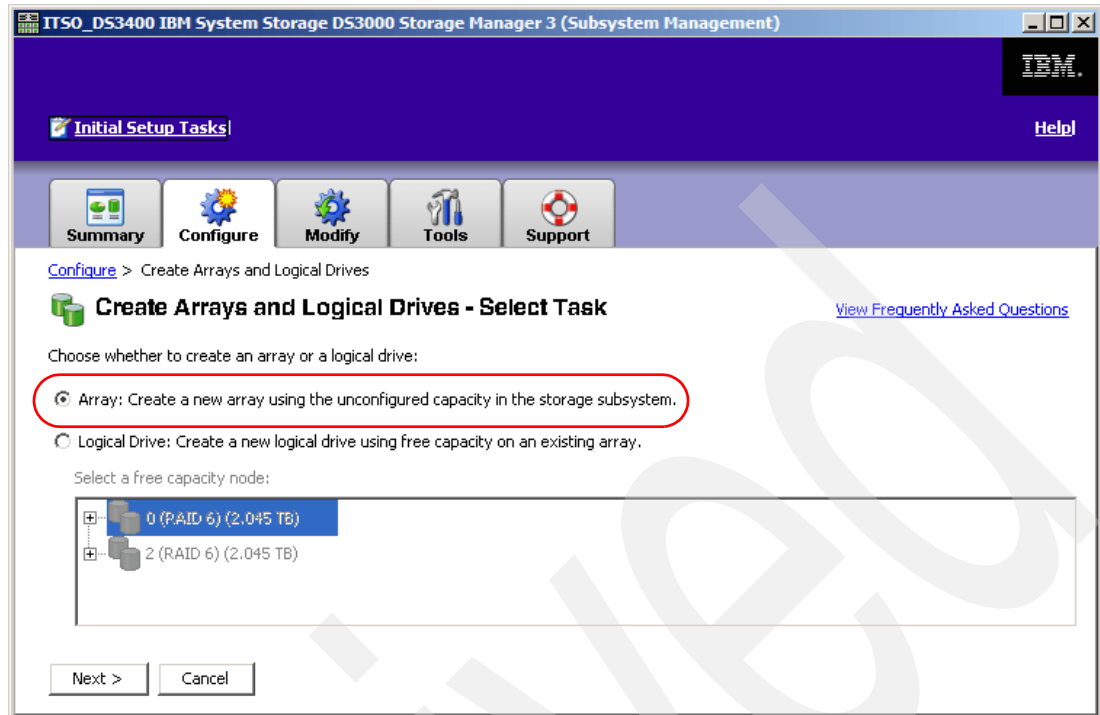

Figure 27-18 Create Arrays and Logical Drives
2. Select the capacity type, as shown in Figure 27-18 on page 687.